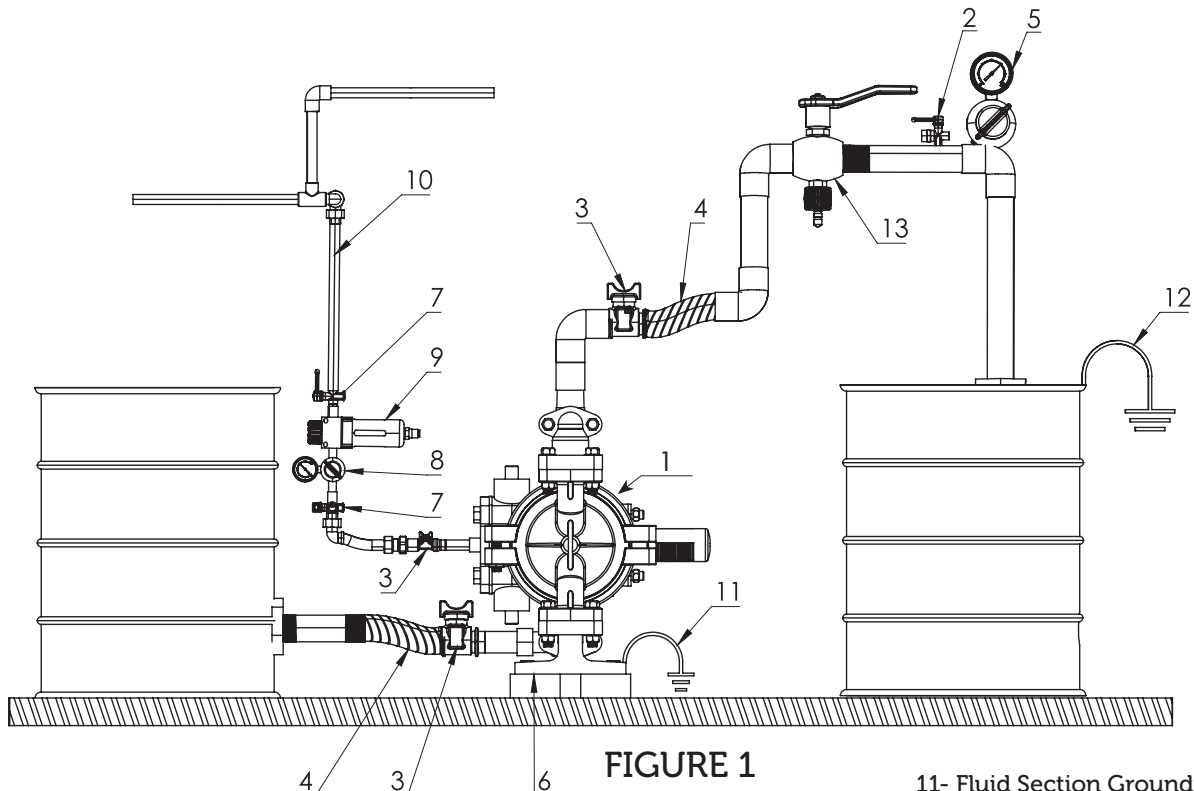

FIGURE 1
Installation of the diaphragm pump is easy. However, if installation characteristics recommended by the Manufacturer Company are considered, working life of the pump shall be long and have high efficiency. (See Figure 1).
The following (Figure 1) installation type is to give User Company enlightening information about how installation should be made and to guide. Consult to **Gunalsan POMPA** or authorized dealer for more information and document.
Pressure from the air line connected to the pump should not exceed 7 bar. Install the air line with a pipe that will not have less size than the connection size so that the pump operates at demanded efficiency. Air line connection size is ¼ in HP 02 type pump. Install air line of the pump as shown in **Figure 1**. Pay attention that air line between the master air line and pump is flexible. Place a cut-off valve (ball valve) before the air line coming to the pump. Close air inlet from this valve when necessary or if pump air is cut off.
- Make air line connection as shown in **Figure 1**. Connect accessories to the wall or to a fixed place. Make sure that air line conducts electricity.
**CAUTION** Air pressurized between air line connected to the diaphragm pump (shown with 3 in Figure 1) should be relieved. Otherwise, pressurized air provides that the pump acts in an unexpected way. This situation may cause accidents and intoxications due to moving parts.
- Place ball cut-off valve before the compression line in a way to be close to the pump. (See Figure 1)
- Place manometer before the compression line to be able to read the pressure. (See Figure 1)
- Flexible and master line pipes to be connected to suction line should be conductive. Ground the pipes if you did not use conductive pipes. (See Figure 1)